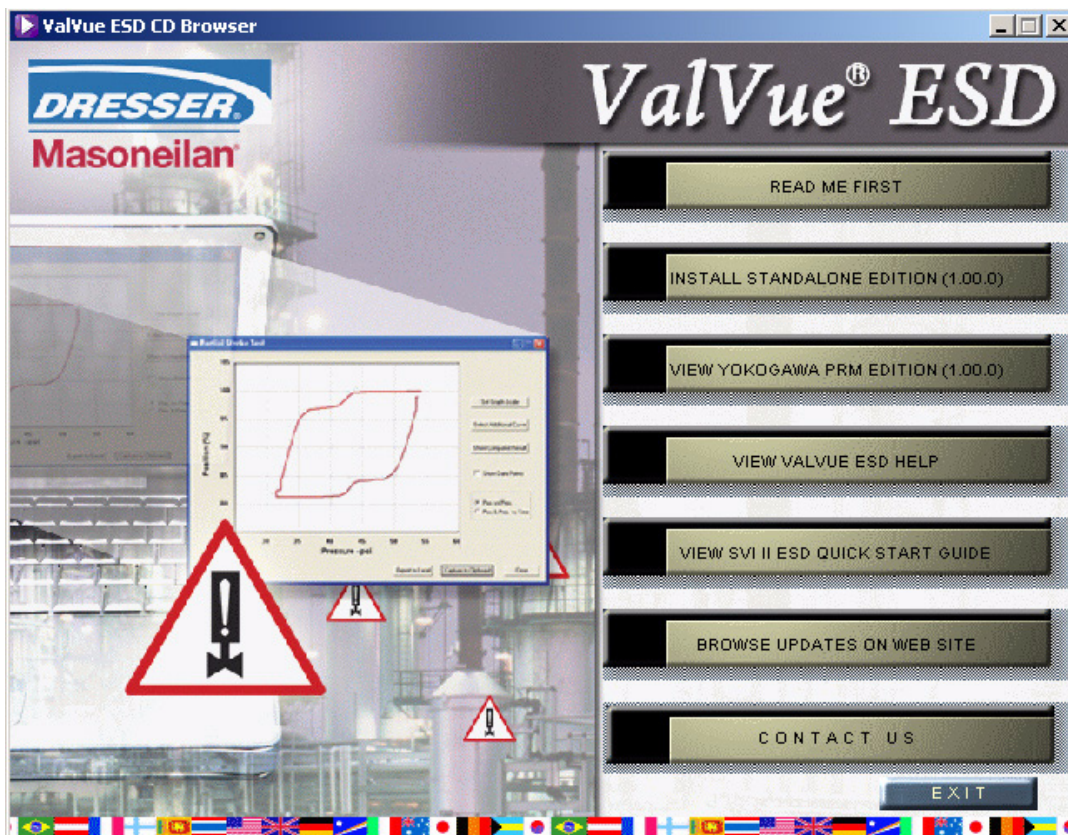

Figure 1 ValVue ESD CD Browser
2. The CD browser will launch, as shown in Figure 1 on page 2.